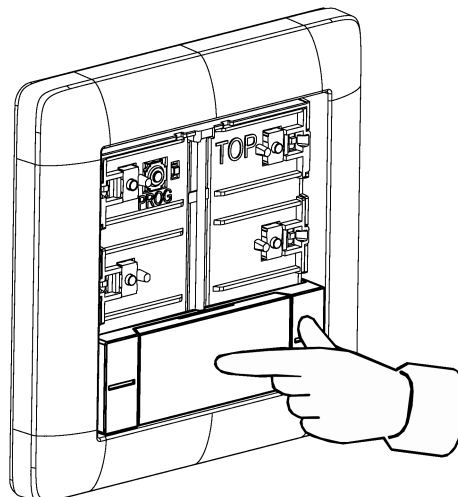

Figure 7: Press lightly in the middle of the rocker
- Press in the middle of the rocker (see figure 7).